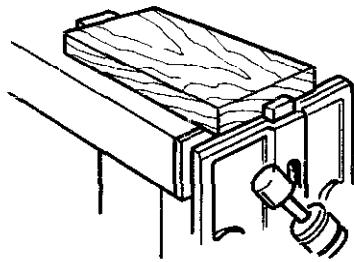

Fig. 8-22 Using a vise and bench stop to hold the work.
1. Clamp the work securely, as shown in figure 8-22, so that both hands can be used to control the plane. Note the direction of the grain. Plane, when possible, in the same